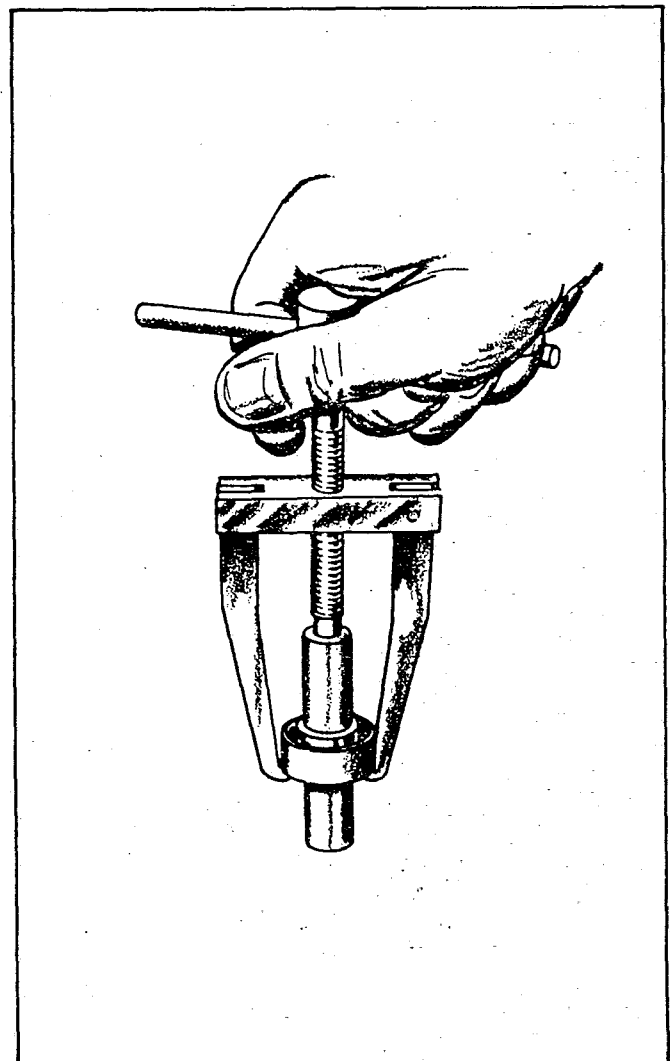

FIGURE 21. MOUNTING OVERRUNNING CLUTCH
3. To mount the overrunning clutch; first insert the pinion stopper into the armature shaft, then apply the ring to the groove of the shaft rigidly. For the insertion of the ring, use a tool as shown in Figure 21 and pull the pinion stopper up.